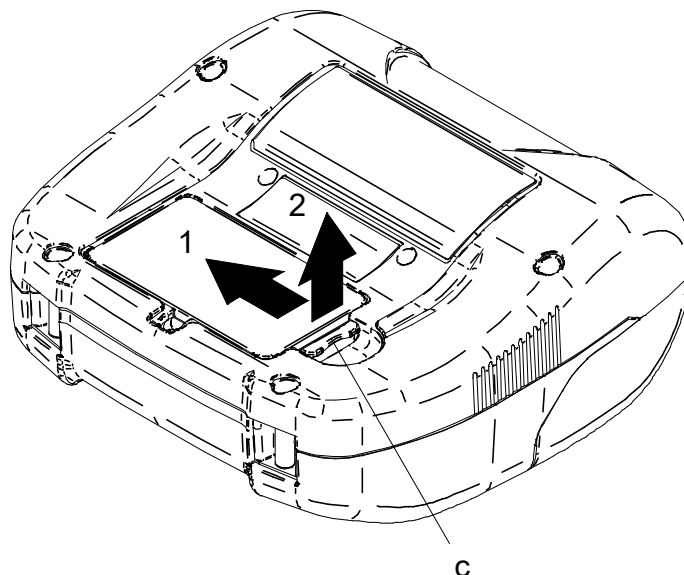

Figure 8-4 Removing Battery Pack
- (1) Turn off the printer.
- (2) As shown in Figure 8-4, pressing the lever "c" of the battery pack in the direction of the arrow 1, remove it by pulling up in the direction of the arrow 2.